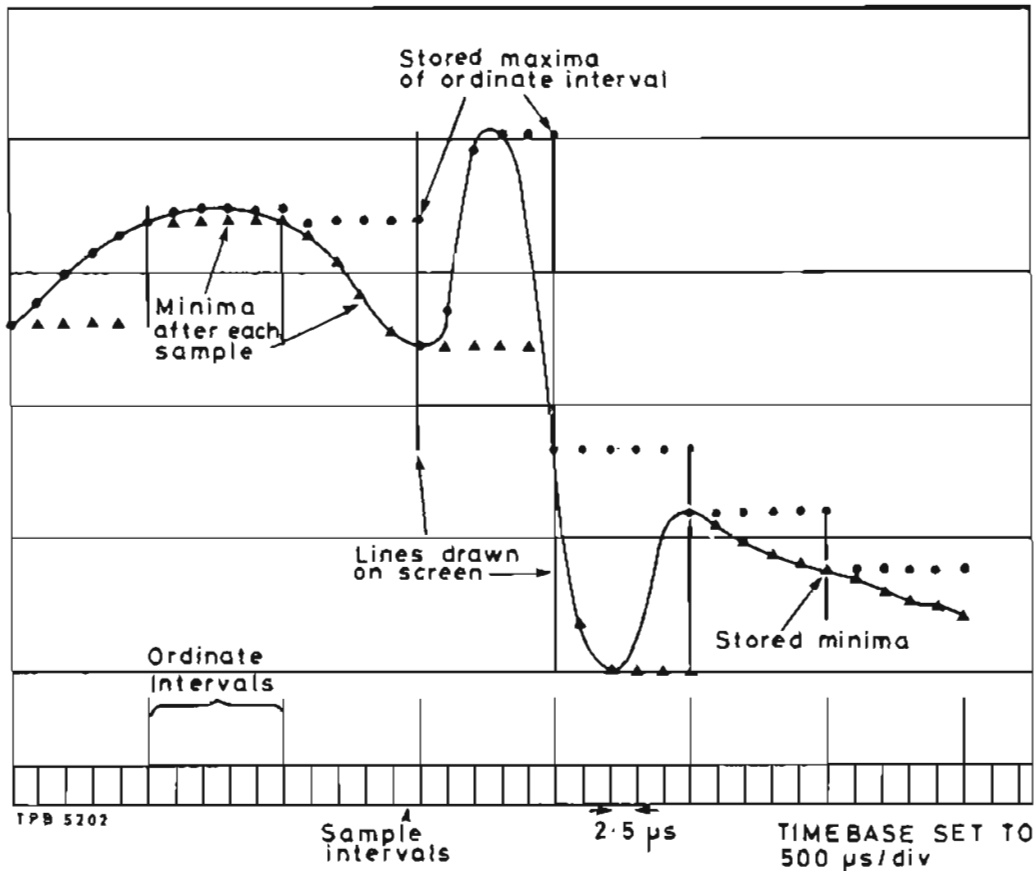

Fig. 11 Oscilloscope display generator process - AB2
96. The maximum and minimum latch outputs from IC7 and IC8 connect to the A and B inputs respectively of the data selector formed by IC10 and IC11. When enabled by pin 15 being taken low by the SCOPE TIMEBASE signal, the data selector connects the inputs to the data bus. Since SCOPE TIMEBASE occurs at the ordinate rate (which is variable and depends upon timebase setting), only the peak and trough values found during the preceding ordinate period are passed on. When IC26b QB goes low the peak value is output and when it returns high the trough value is output. These data are sent into two consecutive locations in display memory IC12, and write address counters IC18a and IC17 are incremented. IC7 and IC8 are both reloaded at this time with the current sample latched from IC2, ready for comparison with the next sample. Fig. 11 shows the manner in which values are stored and the lines are drawn on the screen to reproduce the waveform.